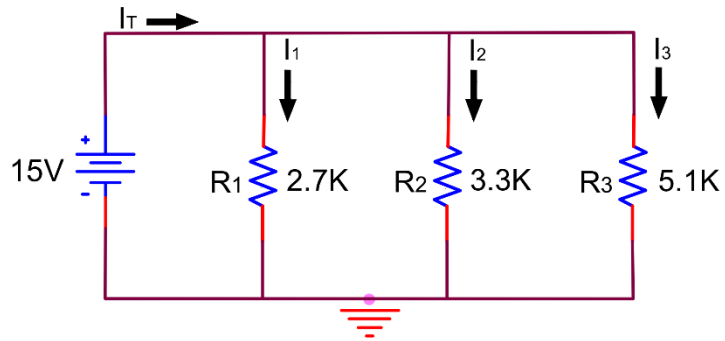

Figure 5.15
4. Construct Figure 5.15. Measure the voltage for each resistor and calculate each current.